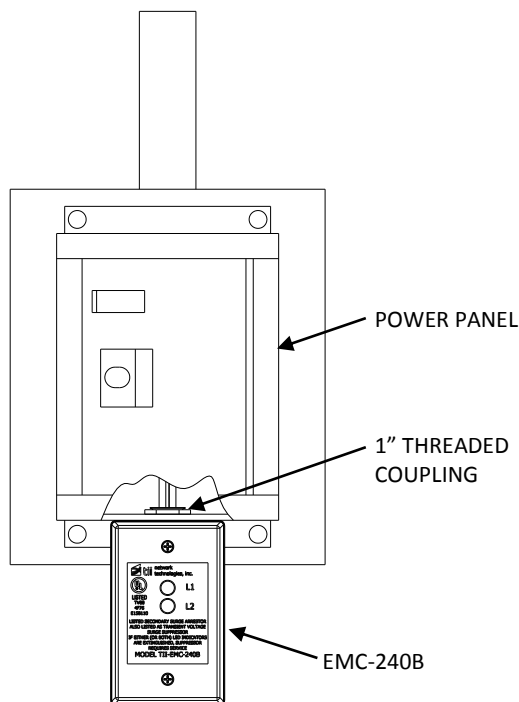

Figure 1
1. The unit can be mounted on the AC service by conduit, junction box, or power panel utilizing a standard 1" inch hole. Figure 1 shows the unit mounted on a power panel.
2. Identify location for mounting the TII EMC-240B. Mount the unit using the removable 1" threaded coupling supplied (See Figure 1).